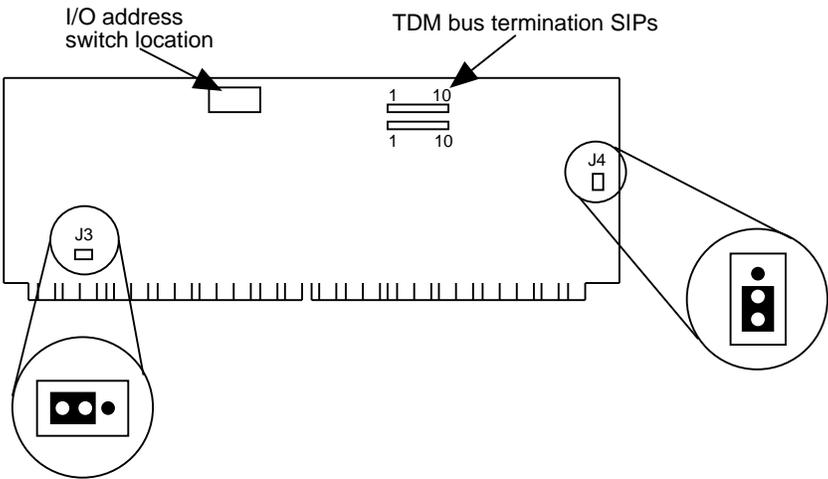

Figure 7-17. Location of Jumpers and Switches on the Signal Processor Circuit Card (ACY2B only)
- AYC2B — see Figure 7-17
The two jumpers on the AY2B SP circuit card are preset at the factory. However, before you install these cards, ensure that the jumpers are set as shown in Figure 7-17.